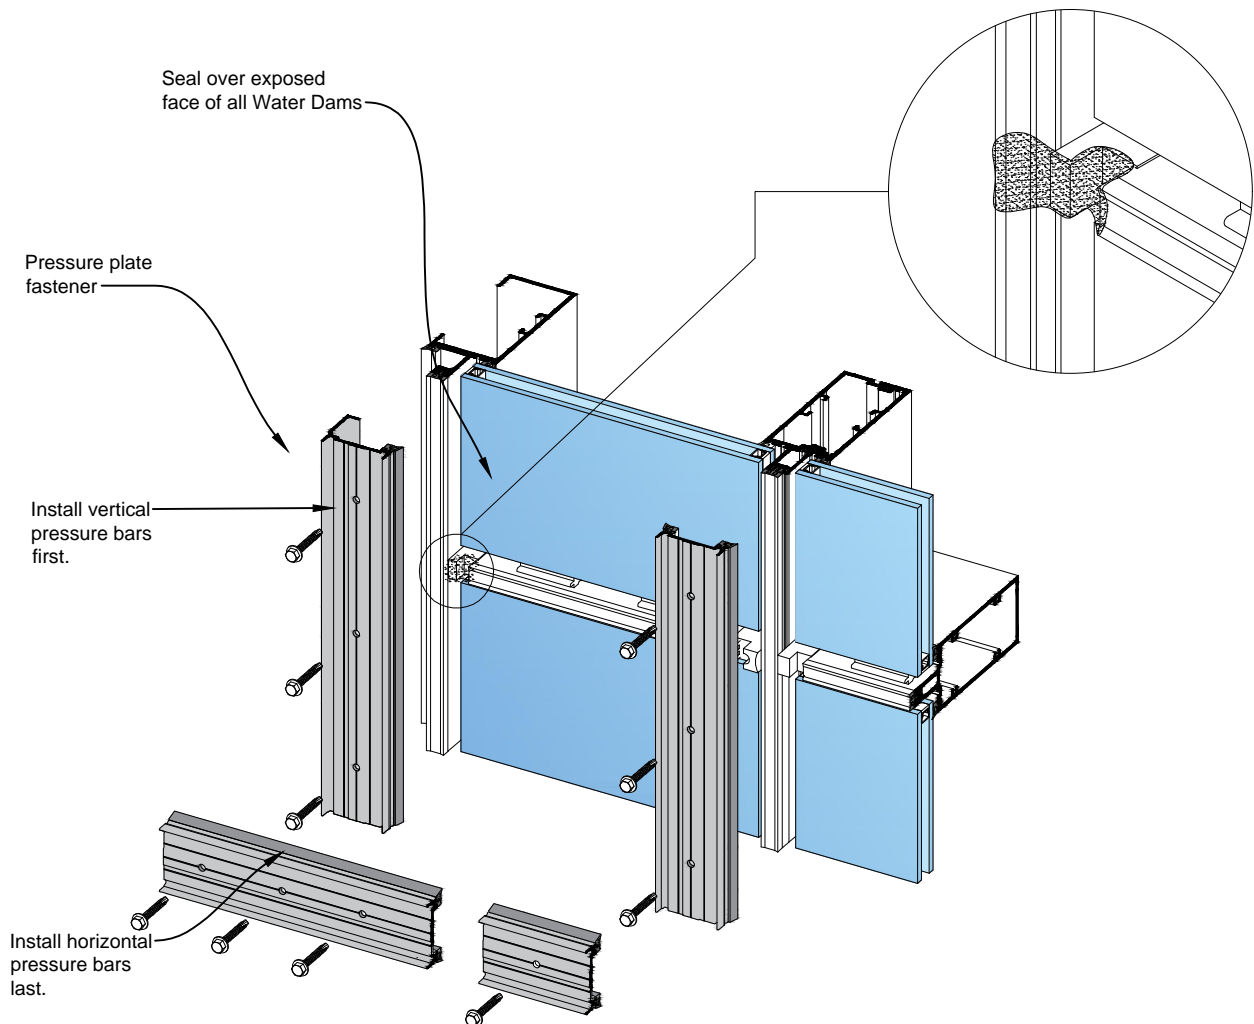
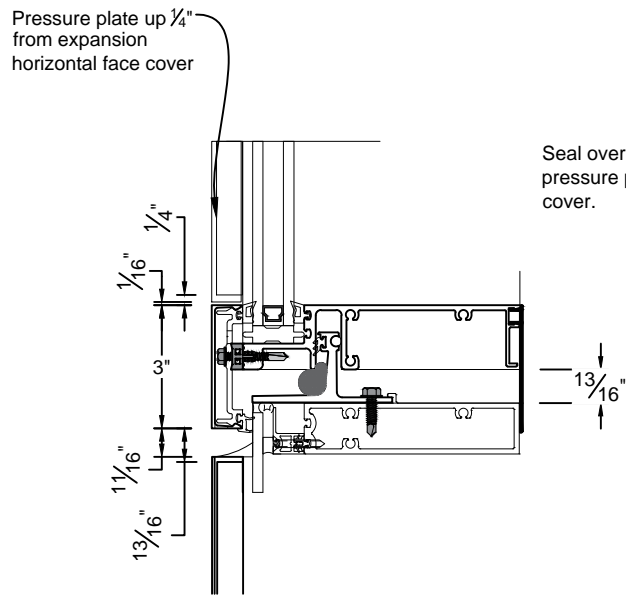

Fig. 54.1
Fig. 60.1
- B. Vertical pressure plates must be installed first. Prior to installing, apply sealant to the face of each water dam. See Fig. 54.1. For vertical pressure plates below expansion horizontals, maintain a 13/16" joint between the bottom of the expansion horizontal and the pressure plate. At the vertical pressure plates above expansion horizontals, locate 1/4" above the top of the upper horizontal. See Fig. 60.1.